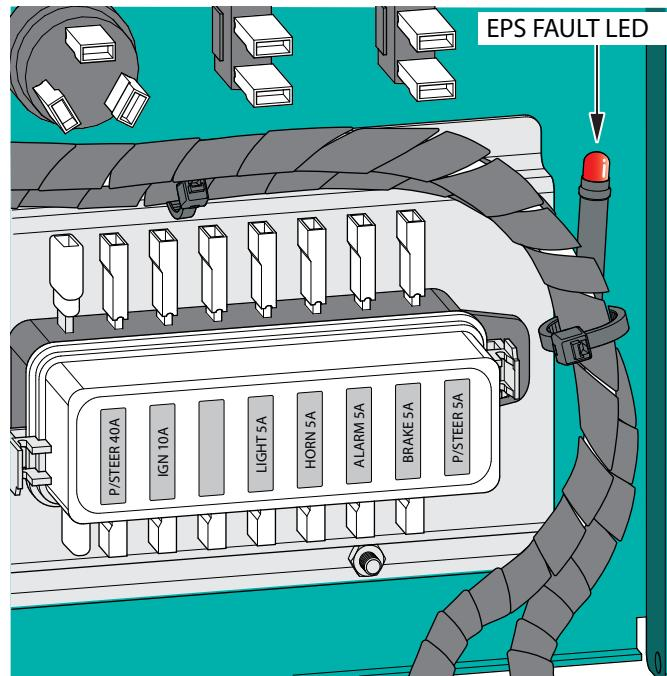

Figure 35. Location of EPS Fault LED
5. In case of failure, the Electric Power Steering (EPS) fault LED of wire harness will flash. Do not turn off the power at that moment, carefully observe the flash times of the fault LED located at the back side of the control panel (see Figure 35).